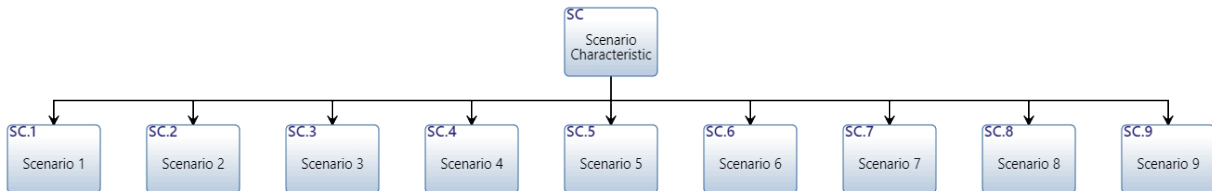

Figure 30. Hierarchy Diagram for Moonbase Scenarios
- On the blank palette, build the scenario hierarchy as it appears in the diagram in Figure 30.